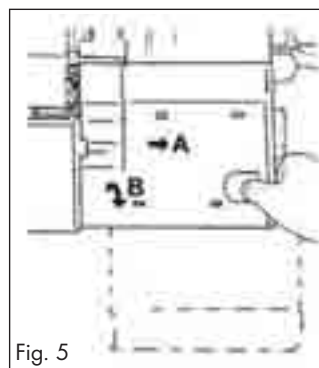

Fig. 5
- Slide the front flap **10** to the right (A) and then pull it towards you (B) (Fig. 5). You will see the upper looper behind the front flap **10**.